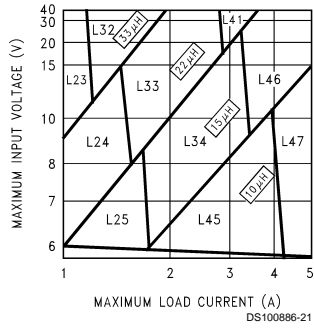
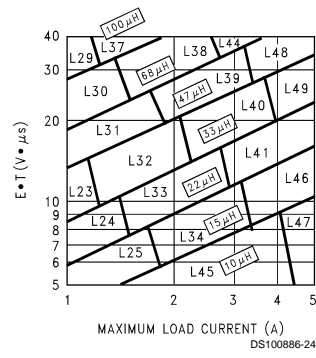

FIGURE 3. LM2678-3.3
FIGURE 6. LM2678-ADJ
**Step 3:** Determine the inductor required by using one of the four nomographs, *Figure 3* through *Figure 6*. Table 1 provides a specific manufacturer and part number for the inductor.
**Step 5:** Determine an input capacitor from Table 4 for fixed output voltage applications. Use Table 2 to find the specific capacitor type. For adjustable output circuits select a capacitor from Table 2 with a sufficient working voltage (WV) rating greater than  $V_{in\ max}$ , and an rms current rating greater than one-half the maximum load current (2 or more capacitors in parallel may be required).
**Step 3:** Use the nomograph for the 3.3V device, *Figure 3*. The intersection of the 16V horizontal line ( $V_{in\ max}$ ) and the 4A vertical line ( $I_{load\ max}$ ) indicates that L46, a 15 $\mu$ H inductor, is required.
**Step 3:** To use the nomograph for the adjustable device, Figure 6, requires a calculation of the inductor Volt•microsecond constant (E•T expressed in V•µs) from the following formula:
Using Figure 6, the intersection of 27V•µs horizontally and the 3.5A vertical line (Iload max) indicates that L48, a 47µH inductor, or L49, a 33µH inductor could be used. Either inductor will be suitable, but for this example selecting the larger inductance will result in lower ripple current.
**Important Note:** When using the adjustable device in low voltage applications (less than 3V output), if the nomograph, Figure 6, selects an inductance of 22µH or less, Table 6 does not provide an output capacitor solution. With these conditions the number of output capacitors required for stable operation becomes impractical. It is recommended to use either a 33µH or 47µH inductor and the output capacitors from Table 6.